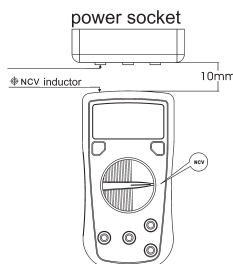

figure 9
**I. NCV Function** ( UT136D only, see figure 9)